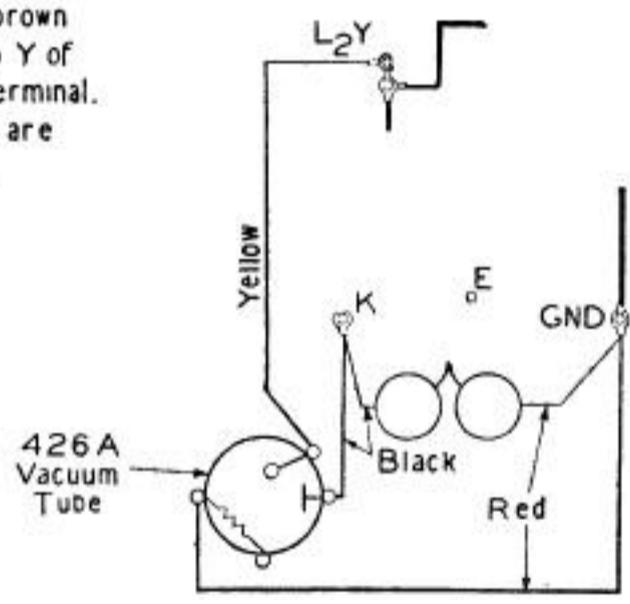

Fig. 1—309 Type Telephone Sets—Connections
2.01 The 309 type telephone sets as furnished may have either a 405A or a 426A vacuum tube and are connected for use on the (—) ring party as shown in Fig. 1. Tables 1 and 2 show the ringer and mounting cord connections in the set for all parties.
2.06 Where the transmitter battery for more than one 309 type telephone set is obtained from a common source of supply such as a battery feed from the central office the following changes in Fig. 1 must be made.
Connect the white, red and black conductors of the F2B handset cord the same as shown in Fig. 1 for the F1A handset.